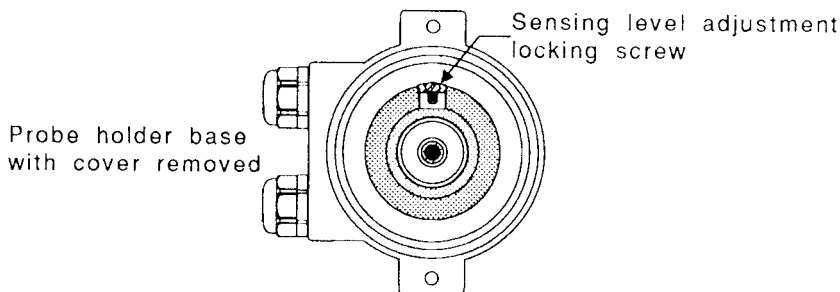

Figure 3.8 Optic Probe Locking Screw
1. The sensing level of the probe is adjusted by loosening the locking screw located inside the probe holder. See Figure 3.8 below.